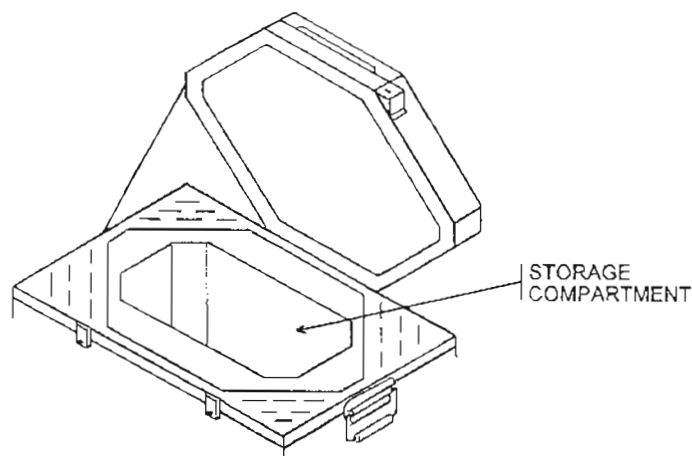

Figure 3-16. Storage compartment.
a. The refrigerator temperature recorder is a highly reliable instrument. The drive mechanism is tested and adjusted to close tolerances. The temperature coil is welded into place and cannot get out of adjustment. The recorder will provide a hard copy of the temperature maintained within the storage compartment (fig 3-16) of the refrigerator.